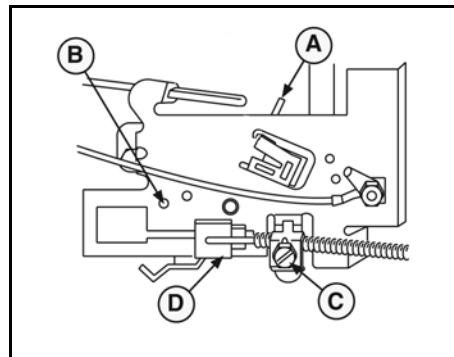

Figure 27
1. Loosen casing clamp screw (C, Figure 27).
3. Move governor control rack (D) until holes are aligned (B) between control lever (A) and the control bracket.